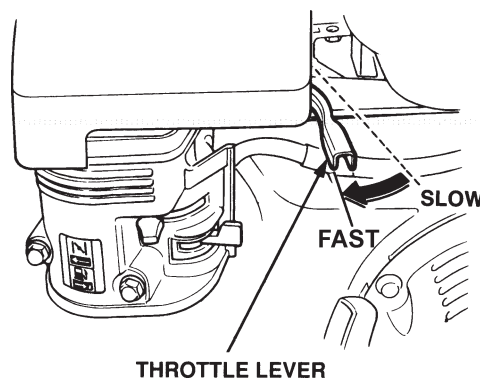

Figure 13. Throttle Lever
3. Move the throttle lever (Figure 13) away from the slow position, about 1/3 of the way toward the fast position.